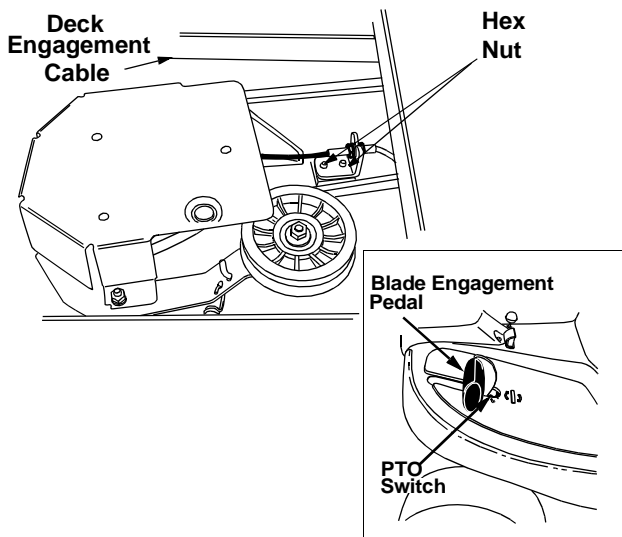

Figure 10
The blade engagement pedal should be adjusted so that if you depress it about  $\frac{3}{4}$ " from the front of the slot, it should start engaging the deck belt. The PTO (power take off) switch is located in the blade brake slot on the left side of the upper frame. See Figure 10. The brake engagement pedal needs to make contact with the PTO switch for the engine to start.
Adjustment to the blade brake will have to be made at the cable end. See Figure 10.
- If the belt is slipping when you depress the blade engagement pedal about  $\frac{3}{4}$ ", loosen the two hex nuts on the cable. See Figure 10.
- If the belt is engaging sooner than when the blade engagement pedal is  $\frac{3}{4}$ " from the PTO switch, tighten both hex nuts on the cable. See Figure 10.